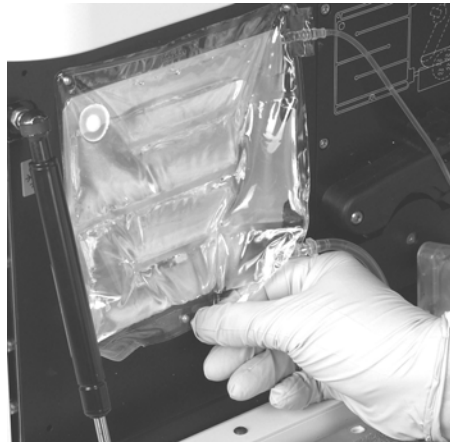

Figure 2-7. Positioning the Coolant Bag onto the Lower Mounting Pin
4). Complete the process of installing the Coolant Bag by positioning the bottom mounting hole over the lower mounting pin below the chill plate (*Figure 2-7*).